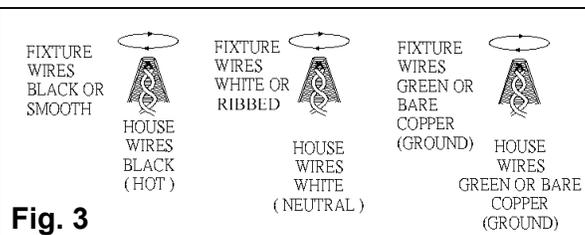

Fig. 3
CONNECTING THE WIRE (See fig.3)
15. Connect the electrical wires as shown in Fig. 3, making sure that all wire connectors (M) are secured. If your outlet box has a ground wire (green or bare copper), connect the fixture's ground wire to it. Otherwise, connect the fixture's ground wire directly to the crossbar (P) using the ground green screw (N) provided.
16. Tuck wire connectors (M) neatly into the outlet box and raise canopy (U) over collar loop (T) and secure with collar ring (Y).
17. Install (5) five candelabra base bulbs (J) up to 60 watts each or CFL or LED equivalent (not included) in accordance with the fixture specification. — **DO NOT EXCEED THE MAXIMUM WATTAGE RATING! (NE PAS DEPASSER LA PUISSANCE NOMINALE MAXIMALE!**
18. Insert glass shades (K) into cups (H).
1. At this point, connect the electrical wires as shown in Fig. 3, making sure that all wire connectors are secured. If your outlet box has a ground wire (green or bare copper), connect the fixture's ground wire to it. Otherwise, connect the fixture's ground wire directly to the crossbar using the green screw provided.
2. Tuck the wire connectors neatly into the ceiling outlet box and raise the canopy (U) and collar ring (Y). Then thread collar ring (Y) onto collar loop (T) protruding through canopy.
3. Install the bulbs (J) (bulbs included) into the sockets (I). **(DO NOT EXCEED THE MAXIMUM WATTAGE RATING!) (NE PAS DEPASSER LA PUISSANCE NOMINALE MAXIMALE!).**
4. Insert the glass shades (K) into the cups (H).
16. Tuck the wire connectors (M) neatly into the outlet box and raise the canopy (U) over collar loop (T) and secure with collar ring (Y).
17. Install (12) twelve candelabra base bulbs (J) up to 60 watts each or CFL or LED equivalent (not included) in accordance with the fixture specification.